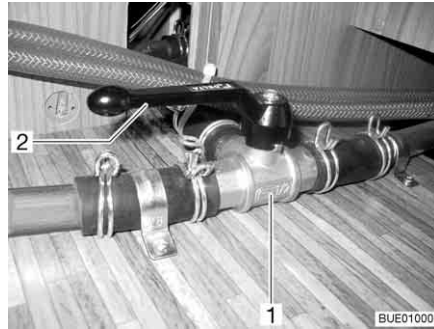

Fig. 162 3-way valve
- Set the lever (Fig. 162,2) of the 3-way valve (Fig. 162,1) parallel to the straight flow direction (Fig. 162).
- Set the lever (Fig. 162,2) of the 3-way valve (Fig. 162,1) transverse to the straight flow direction.